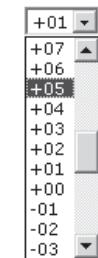

Figure 6-13 — Gain drop box
4. Click the Input Audio Level (dB) drop box. A drop down scroll box appears (figure 6-13).